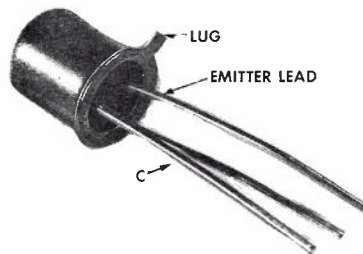

FIG. 35. TYPICAL EMITTER LEAD IDENTIFICATION.
- EMITTER LEAD IDENTIFICATION. Fig. 35 shows one method of identifying the emitter lead. A protrusion is placed at the bottom of the case adjacent to the emitter lead.